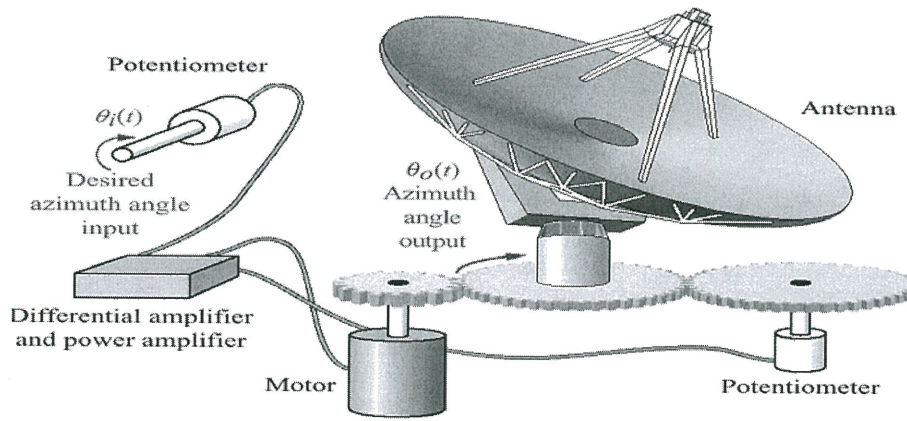

FIGURE Q1(b)
- (b) Figure Q1(b) shows the Closed Loop Antenna system. From this figure: